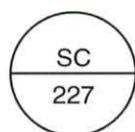

Figure 54. Instrument Tag
11. Determine the measured variable indicated in the instrument tag in figure 54.